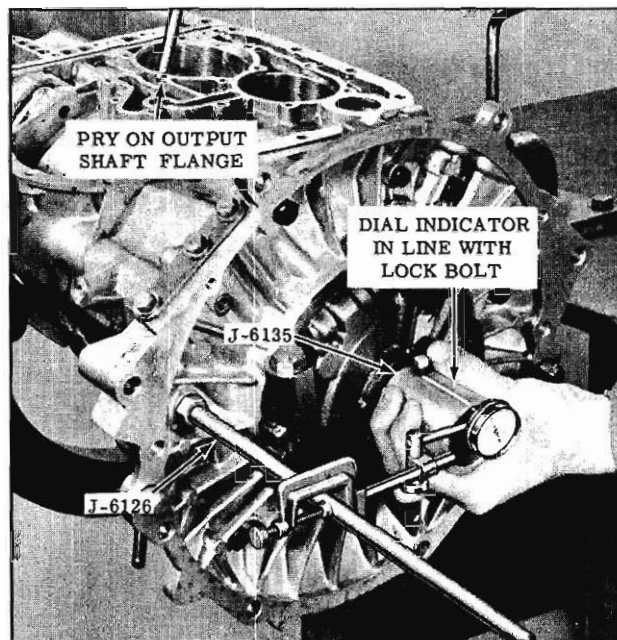

Fig. 6-115 Checking End Play
5. Position a screwdriver through case, BEHIND THE FLANGE ON THE OUTPUT SHAFT and gently pry forward on output shaft to position units forward. At the same time move tool handle and record end play. (Fig. 6-115)